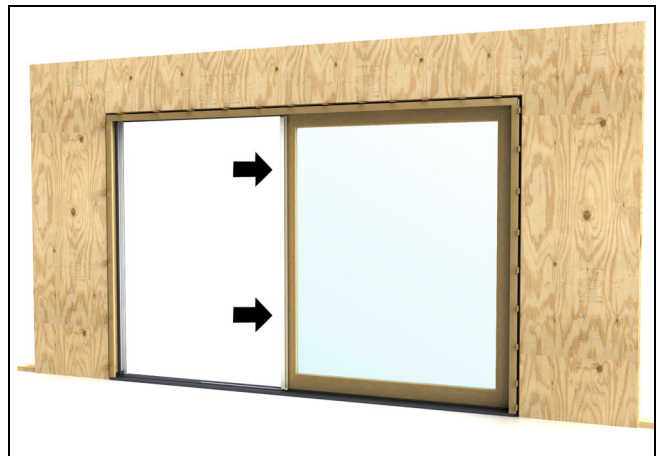

Figure 136
6. Slide panel to opposite jamb and repeat step 4. See figure 136.